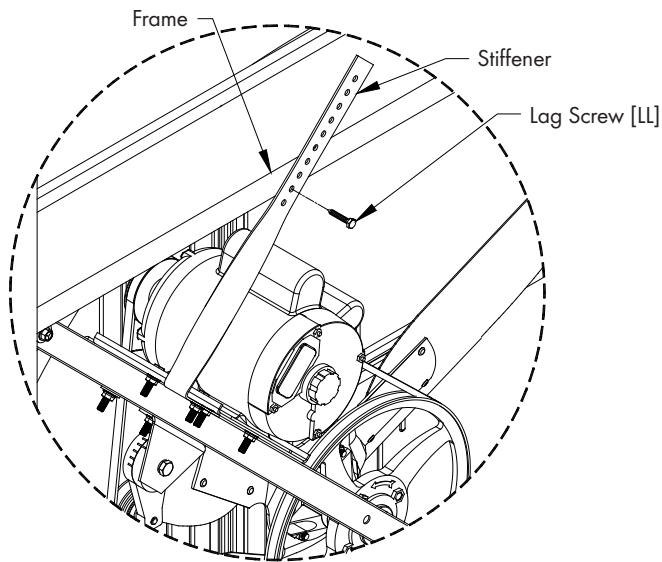

Figure 26B
Using channel locks and/or a hammer twist the motor bracket stiffener so that the holes in the bracket lay flat against the framing. Then attach bracket to framing using (1) Lag Screw [LL]. See Figure 26B.